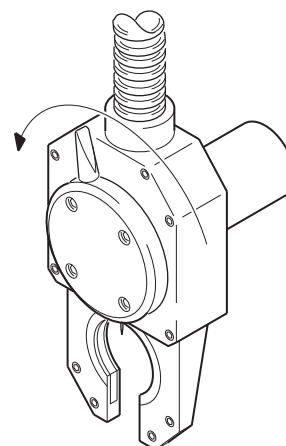

Figure 18 Releasing the Locking Lever
1. Rotate the locking lever on the weld head counter-clockwise until it stops. See Figure 18.